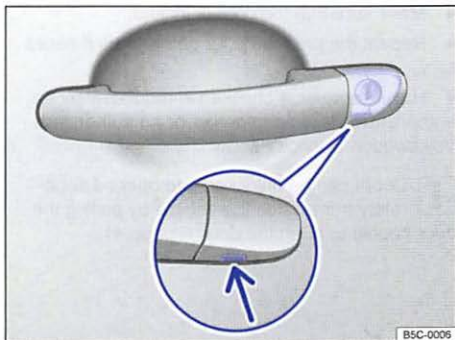

Fig. 146 Door handle on driver door: Concealed lock cylinder.
- Insert the key bit from below into the opening of the cover cap on the driver door ⇒ **fig. 146** (arrow) and lift the cover cap off.